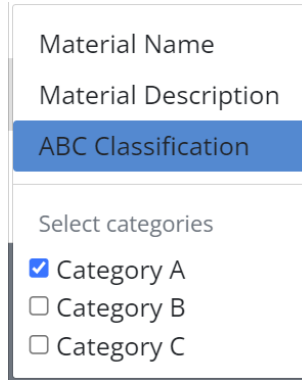

Figure 6: Filter Options - Category Selector
- In the case of a column with categorical values, the user is presented with all available categories and can choose one or multiple options (Figure 6).